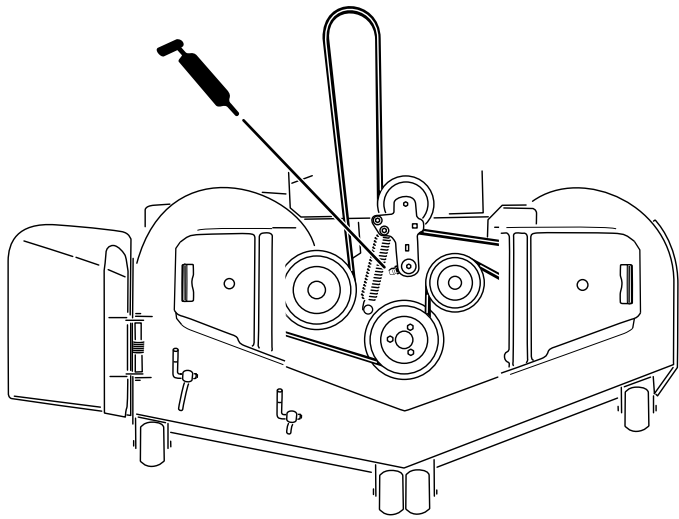

Figure 41
4. For machines with 60-inch decks only, grease the mower deck idler-pulley pivot until grease comes out the bottom (Figure 41).